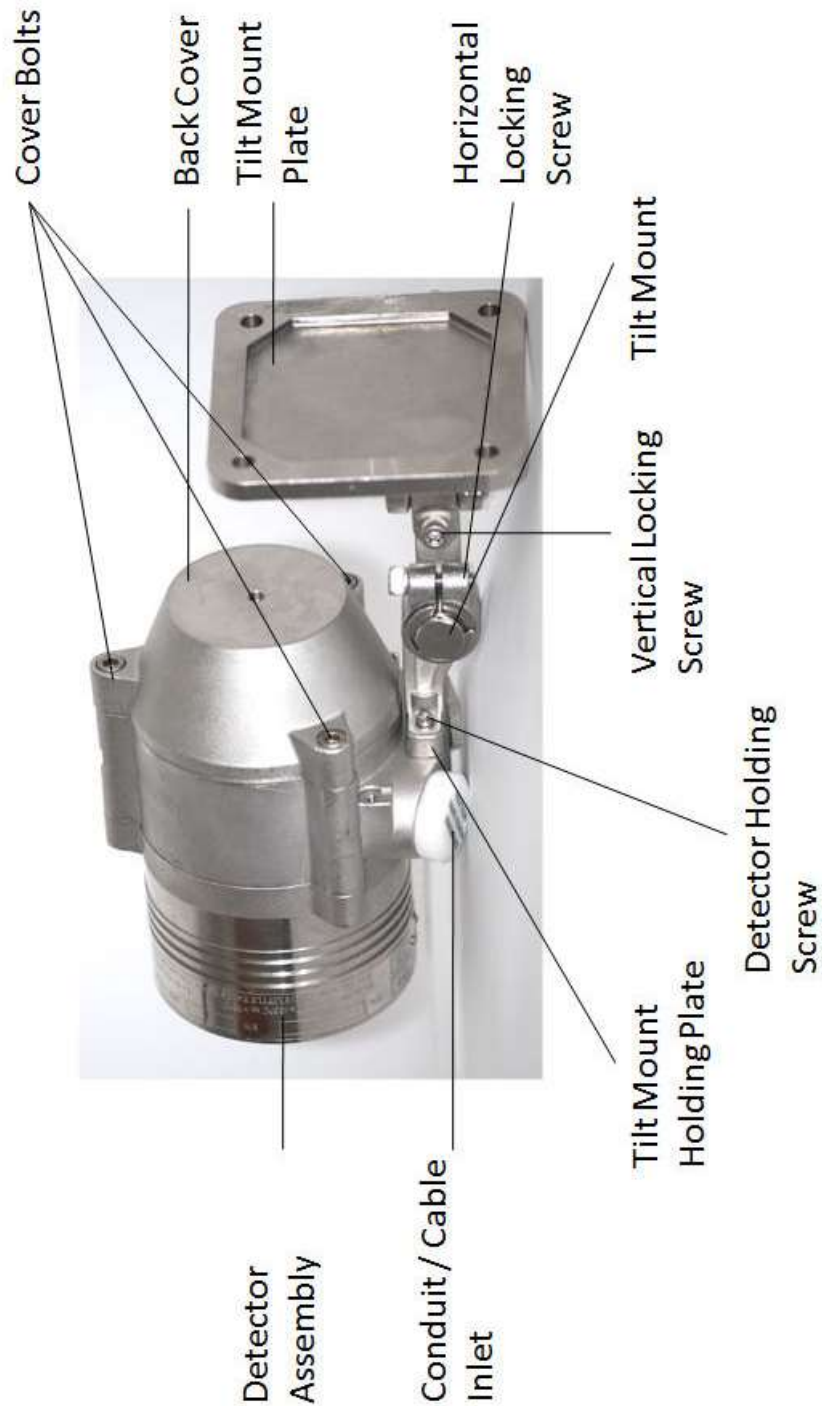

Figure 4: Detector with Tilt Mount
The Tilt Mount enables the detector to be rotated up to 60° in all directions. Figure 4 shows the Detector mounted on the Tilt Mount.
- 9 Place and secure the detector's back cover by screwing the three (3) socket-head-screws in the Cover Bolts (Figure 4).